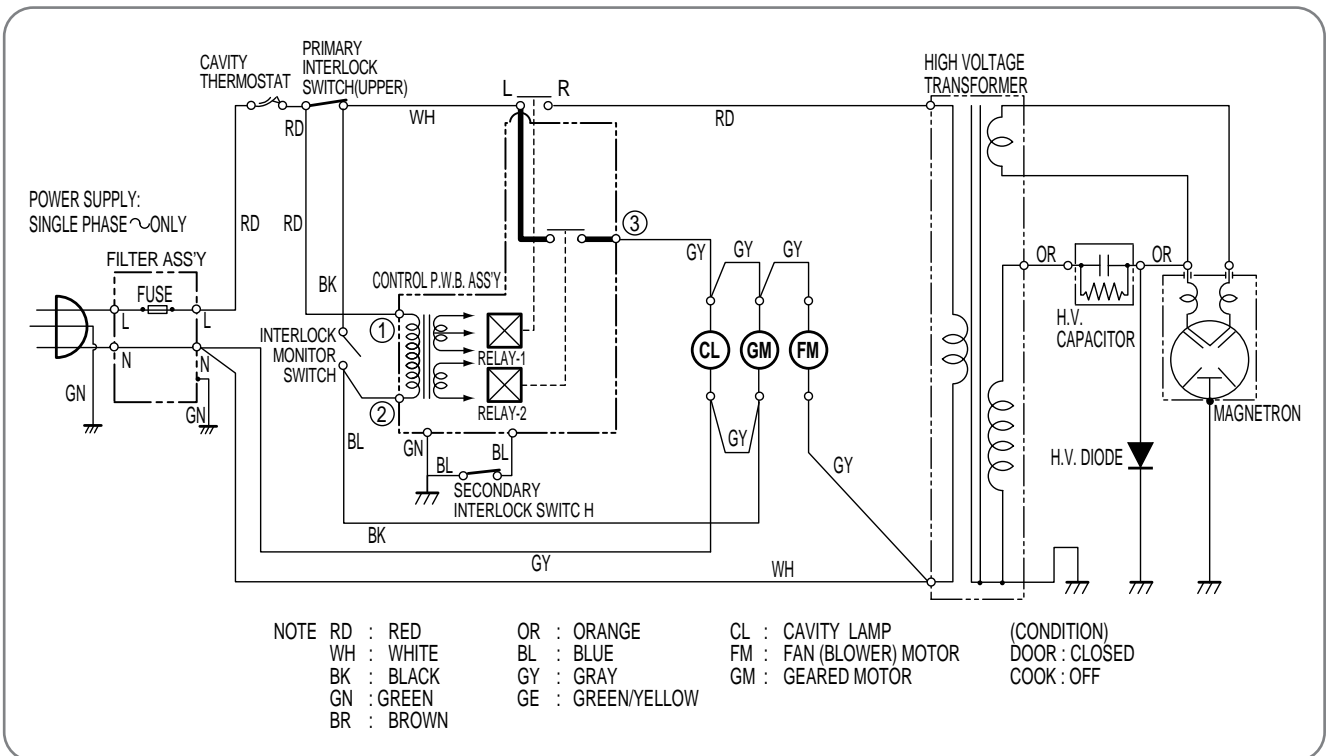

Fig. 1
Refer to the “WIRING DIAGRAM” (Fig. 1) on page 21.
- 1) 120VAC is applied to the high voltage transformer through the contacts of RELAY “1”(See Fig.1)
- 6) If the contacts of primary interlock switch malfunction the 20A fuse blows open due to the large current surge caused by the short circuit activation, and this in turn stops magnetron oscillation (Fig. 1).